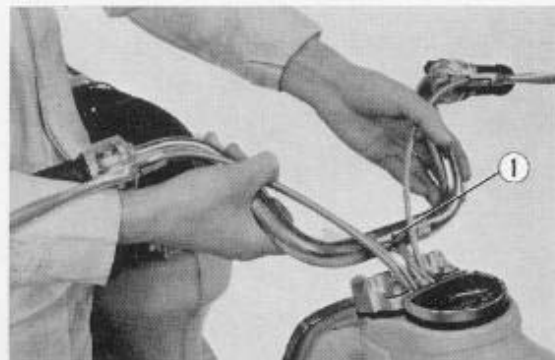

Fig. 4.14 Removing steering handle ICD 90 & CT 90
6. Remove the four 6 mm hex bolts to separate the handle pipe upper holder. Then, pull out the steering handle ① together with the cables and electrical leads (Fig. 4.14) (CD 90 & CT 90)